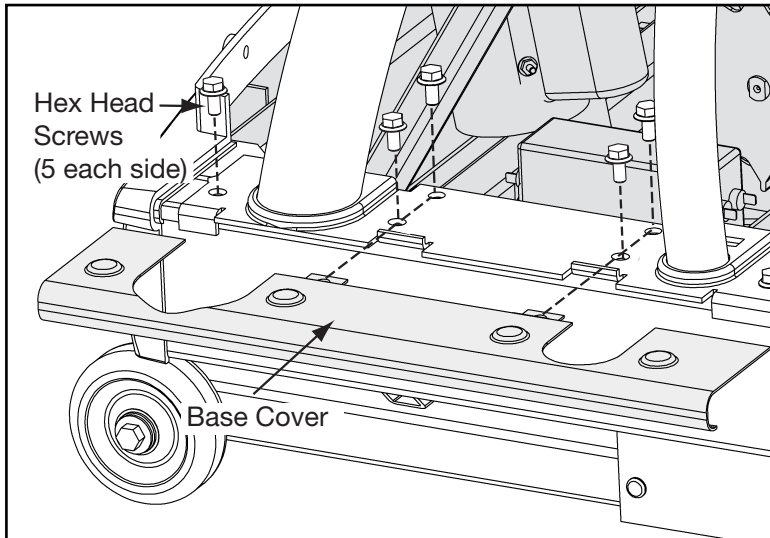

Figure 3
- B.** Using a 1/2" wrench, secure the base covers with four screws provided in bag 1. See Figure 3.